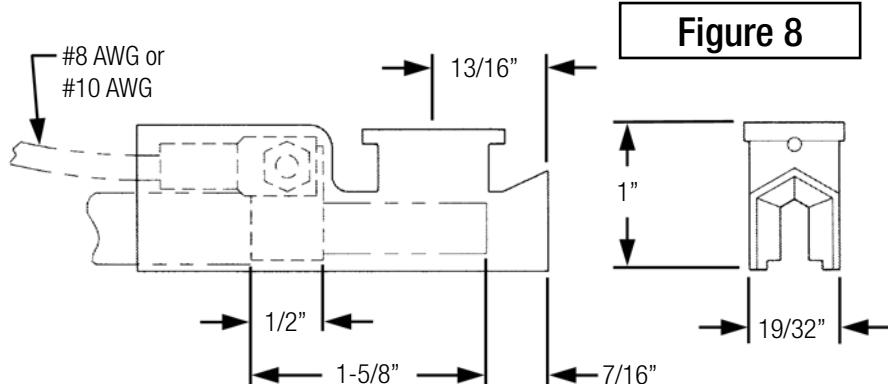

Figure 8
2.4.3 End Powerfeed (See Figure 8)